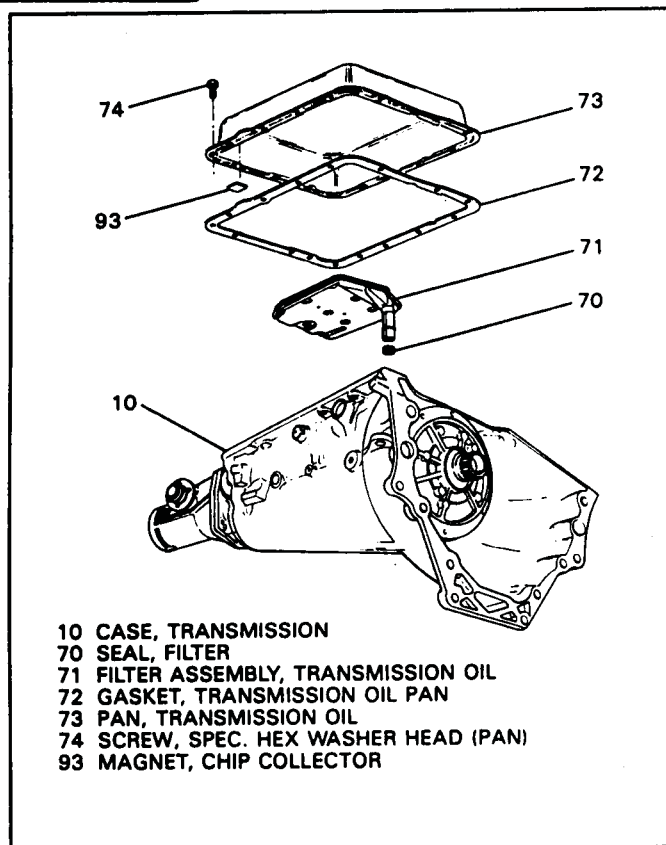

Figure 198
36. Install bottom oil pan onto the case and torque all pan bolts to 9 ft.lbs. (See Figure 198).